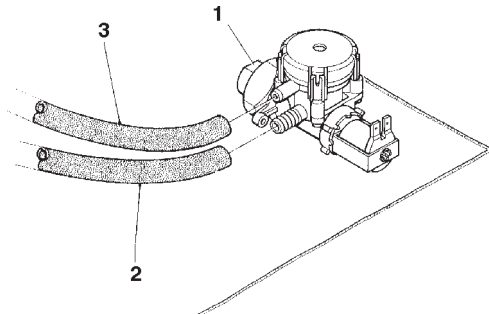

Fig. 15
The water inlet solenoid valve (see fig. 15) is equipped with an overflow device which mechanically stops the water inlet if there is a malfunction in the solenoid valve or in the boiler water level control device.
- loosen the nut which secures the solenoid valve supply hose to relieve the water mains residual pressure and then tighten again (see fig. 15);